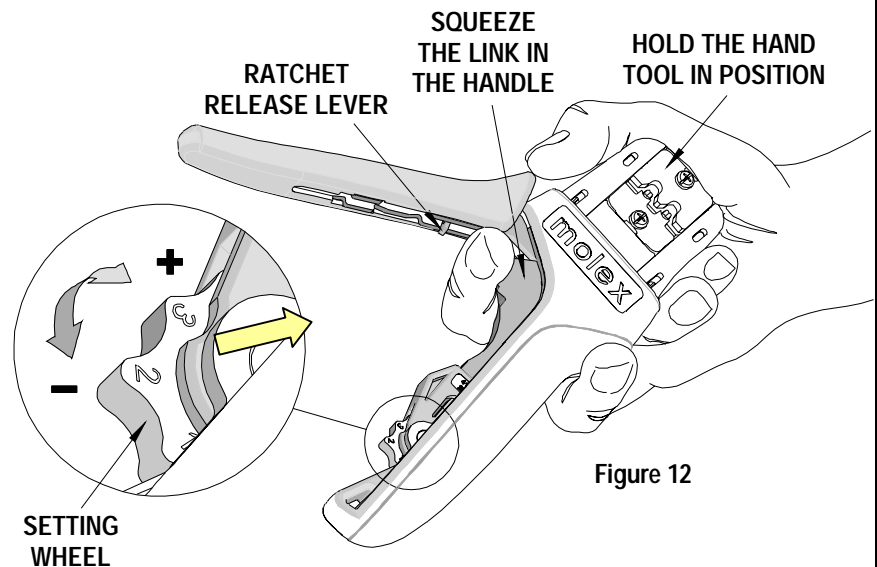

Figure 12
(See Figure 12)
1. Hold the hand tool in the palm of your hand as shown in Figure 12. Using the index finger squeeze the link towards the top of the hand tool frame. This will release the preload adjustment wheel.
2. Rotate the setting wheel counter-clockwise (CCW) to increase handle force. The numbers will display higher. To decrease handle force, rotate the setting wheel clockwise (CW).